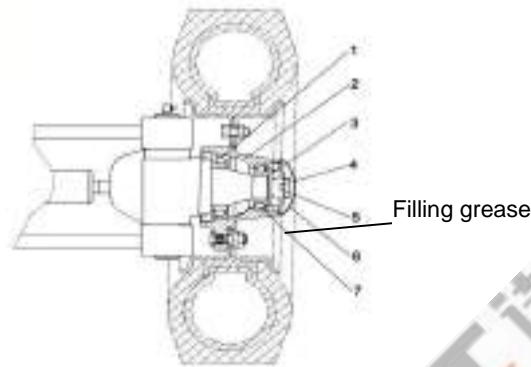

Fig. 2-40 Adjustment of Pre-tightening Load
(1) As shown in Fig. 2-40, fill grease in the hub, the inner/outer bearing and the inner of hub cover. Apply some grease on the oil seal lip as well.
- (2) Fix the outer ring of bearing on the hub and fit the hub on the steering knuckle shaft.
- (3) Fit the plain washer and tighten the slotted nut with a torque of 206-235N.m (21-24kgm). Loosen the slotted nut and tighten it again with a torque of 9.8N.m (1kgm).
- (4) Tap the hub with a wooden hammer and turn the hub for 3-4 circles to check it for looseness.
- (5) Tighten the slotted nut and align the slot with the split pin hole on the steering knuckle.
- (6) Tap the hub with the wooden hammer again, turn the hub by hand for 3-4 circles to check it for unstable rotation, and measure the rotating torque of hub which should be 2.94-7.8N.m (0.3-0.8kgm).
- (7) When the rotating torque exceeds the specified value, turn the hub back for 1/6 circle and measure the rotating torque again.
- (8) When the rotating torque reaches the specified value, lock the slotted nut with a split pin.